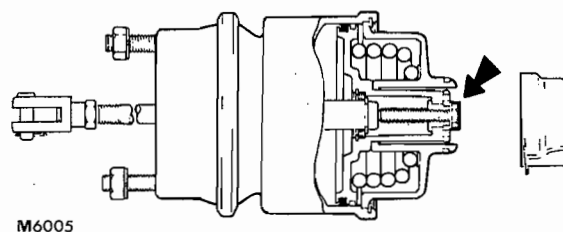

FIG. 1 BRAKE ACTUATOR RELEASE BOLT
2. Charge the air system to the unloader cut-out pressure and set the hand control valve to the 'OFF' position or, with no air supply available, manually release the spring brake actuators (see Fig. 1) and remove the jaw-end pin.